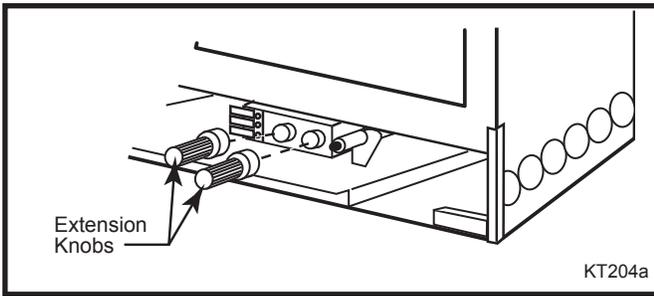

Fig. 64 Install the knob extensions. (RN/RP models Only)
- Install the Control Knob Extensions onto the appropriate Control Valve Knobs. (Fig. 64)
On units fitted with a Honeywell brand control valve the location of the control knobs and the ignitor button may vary slightly from those shown in Figure 64. The Honeywell extension pieces are visually different in design and are not interchangeable with the RN/RP knobs shown in Figure 64.